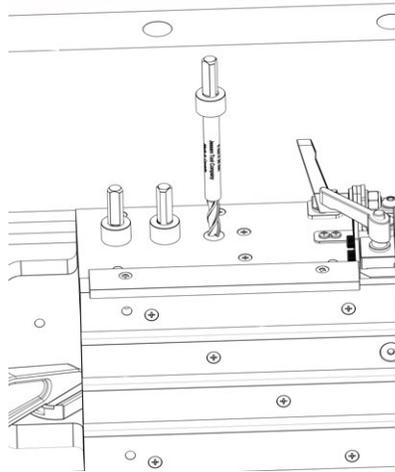

FIG. 15
1. Your Pocket Mill Pro comes standard with a 6mm Carbide Endmill but if you decide to purchase any of the other Endmills in 5mm, 8mm, 10mm, 1/4" and 3/8", the baltic birch workstation has a location for each of them and a 1/8" hex key. (See Figure 15 and 16)